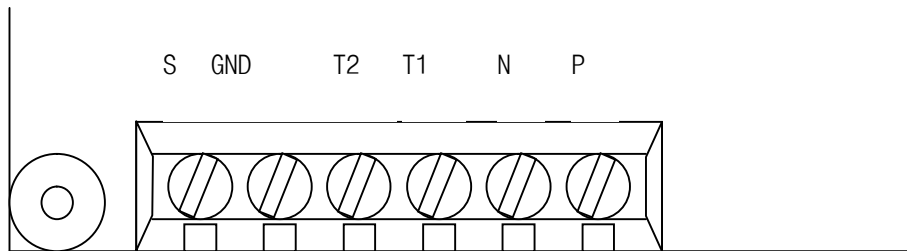

Figure 3. Configuration of Communication Terminal
- ⑦ Turn off the inverter power for the connection of the converter when installing the communication card and setting the parameter are finished.
- ⑧ If the inverter is to be placed at the end of the network trunk line, install a jumper on the option card to enable the termination resistor. (See the figure.3).